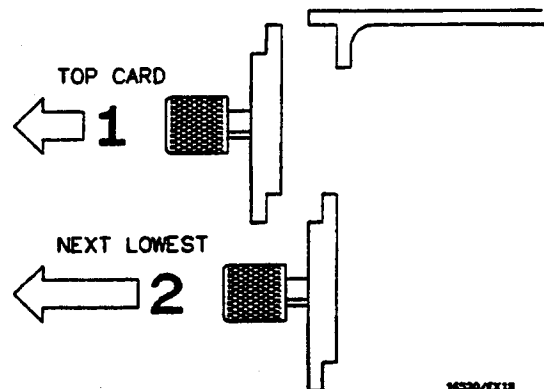

Figure 6-14. Endplate Overlap
- c. Starting from the top, begin pulling all filler panel(s) and card(s) out half way. See figure 6-14.